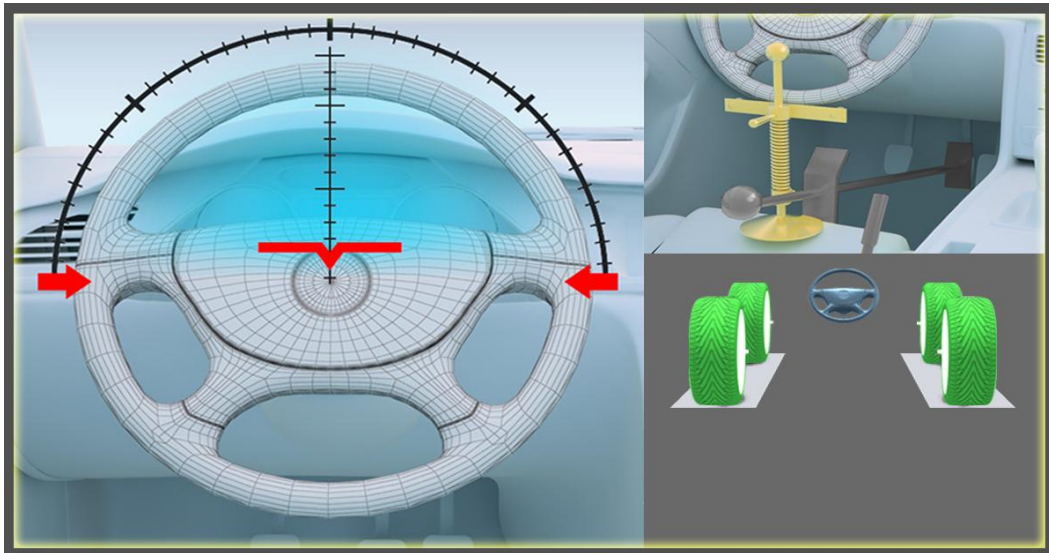

Fig.25
After 12(20) degrees measurement, software will enter Fig.25. Put straight the steering wheel and fix it, pull up hand brake and fix the foot brake. Click NEXT to enter adjustment interface.